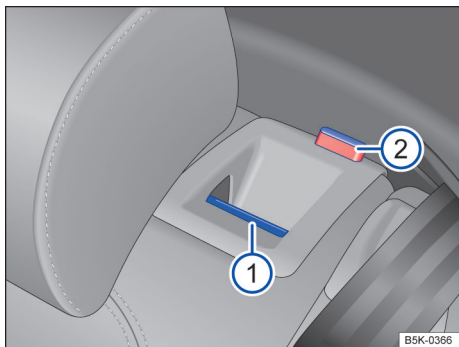

Fig. 57 In the rear seat backrest: Unlock button
- Pull the release button forward → Fig. 57 ❶ while folding the seat backrest forward.